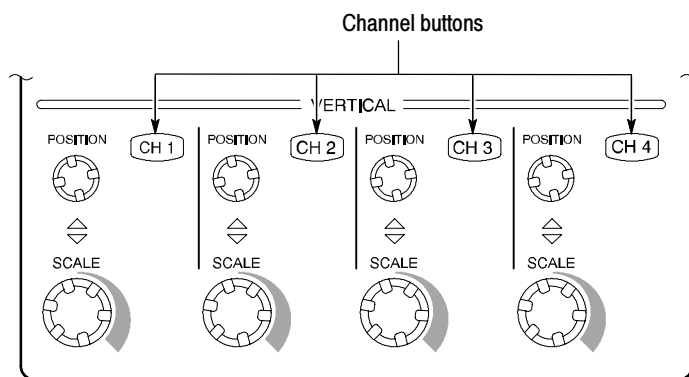

Figure 3-2: Channel button location
5. *Turn off all channels:* If any of the front-panel channel buttons are lighted, push those buttons to turn off the displayed channels. See Figure 3-2.